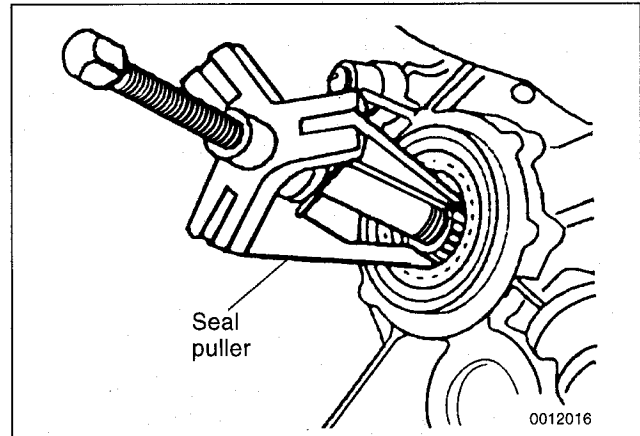

Fig. 6. Puller used to remove transmission seal.
7. Use a seal puller to remove seal from transmission housing. See Fig. 6.